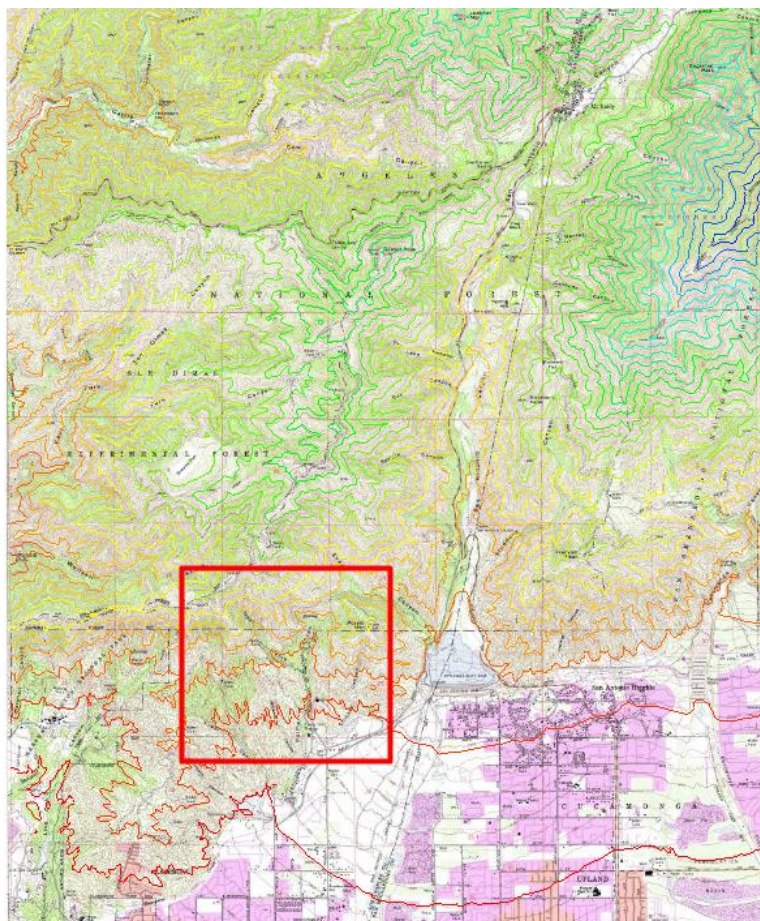

Figure 4-1: Zoom in on the area bounded by the rectangle
9. Use the **Zoom** tool  to view the area shown in the Figure 4-1, below.